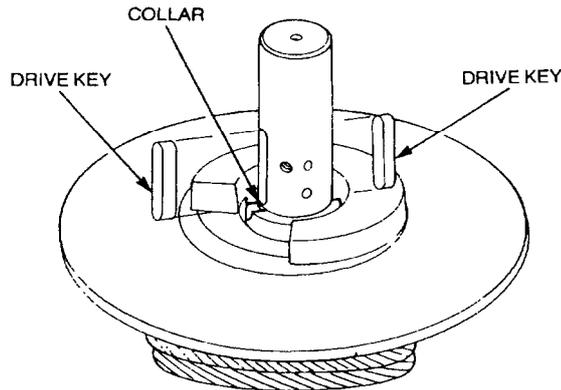

Figure 325 Removing the Winch Drum
- i. Remove the two drive keys from the shaft and slide the collar off the shaft (Figure 325).